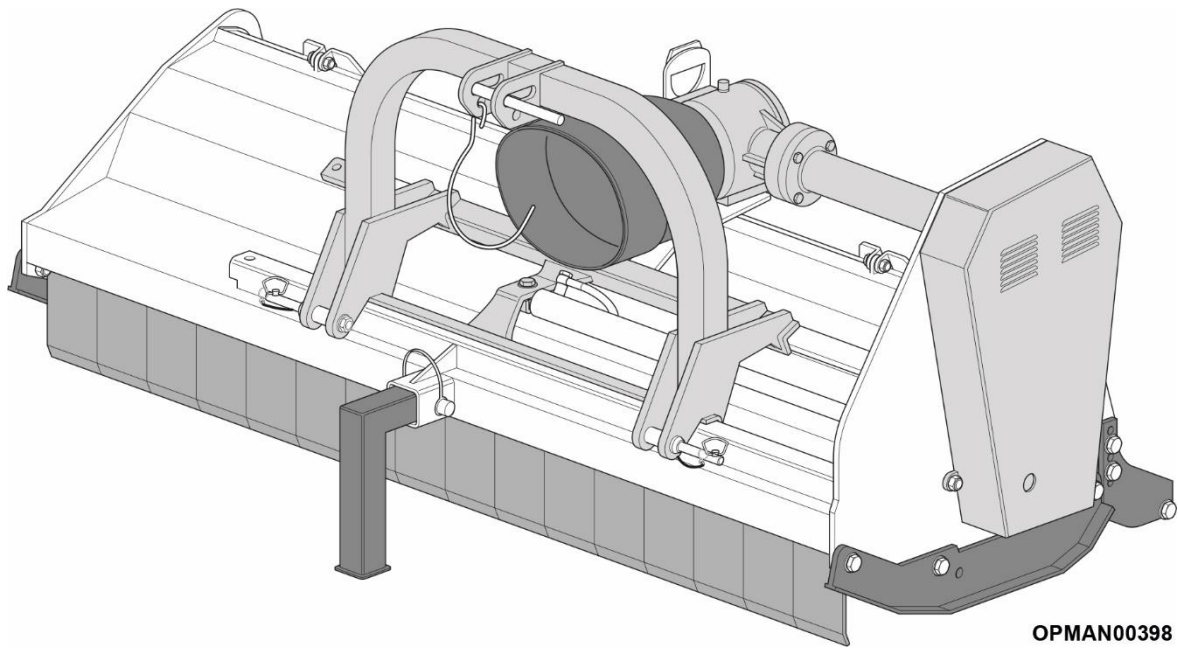

Figure 15
- Use the specific supporting feet in the parking position, see Figure 15 (Sniper 190 only).